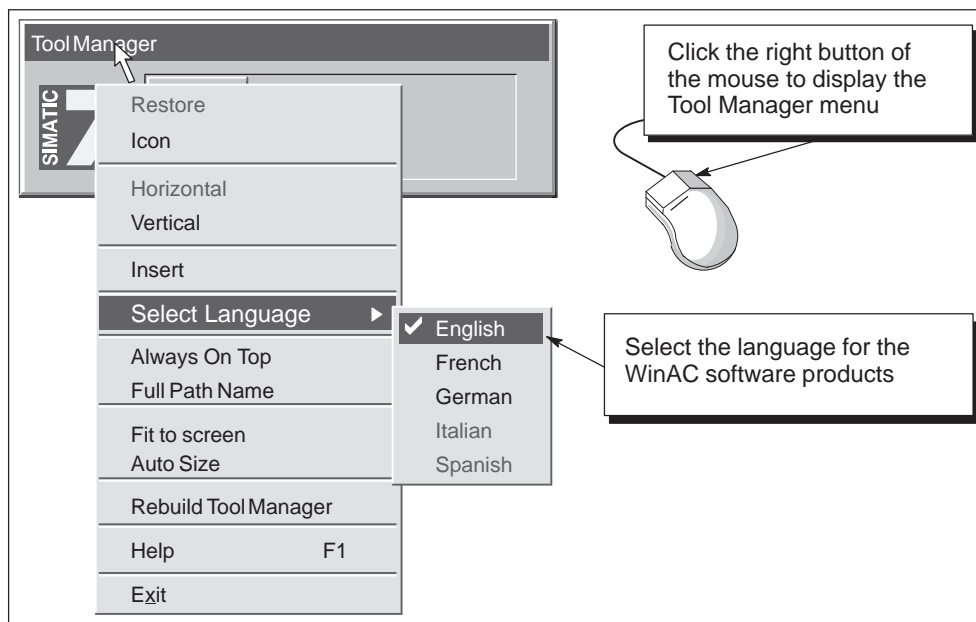

Figure 4-3 Changing the Language for WinAC
2. Click the right button of the mouse to display the menu options for the Tool Manager. See Figure 4-3.
3. Select the **Select Language** menu command to display the menu for selecting the language for WinAC. See Figure 4-3.